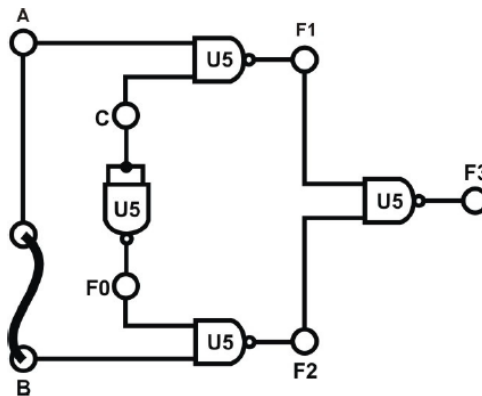

Figure 3.17: 1-to-2 Demultiplexer.
- a) Block e of module KL-33006 will be used in this section. Make the connections according to Figure 3.17. Connect A to Data Switch SW0; C to SW3; F1 and F2 to Logic Indicators L1 and L2 respectively.